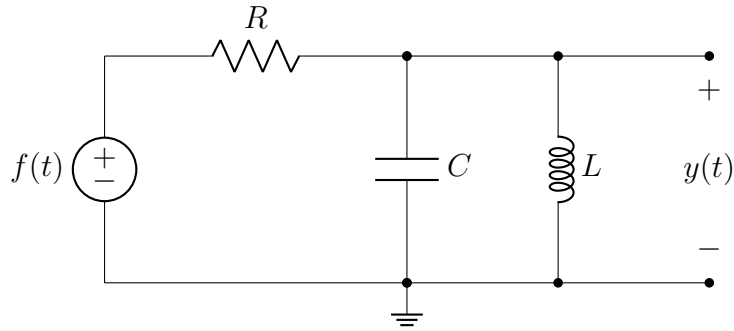

Figure 5.2: Series/parallel resonant circuit
Find the ODE governing the circuit in Figure 5.2. From the ODE, derive the transfer function $H(s)$ from this ODE.
Just to verify your result, write a function in your `periodic_input.py` called `H(s, R, L, C)` that computes the transfer function $H(s)$ for the circuit in Fig. 5.2. The function definition should look like this:
Modify your `periodic_input.py` file to include a function called `y(t, omega_0, m, R, L, C)` that computes the output of the circuit in Fig. 5.2 to the square wave input. The function definition should look like this:
- What ODE governs the circuit in Fig. 5.2?
Connect the $1\text{ k}\Omega$ resistor, the $0.033\text{ }\mu\text{F}$ capacitor, and the 1 mH inductor as shown in Figure 5.2. Connect the input to the function generator and attach a scope probe to the output. Configure the function generator to produce a 20 kHz square wave with a 4 V amplitude. Record two periods of the input and output on the oscilloscope. You may need to adjust the time base and voltage scale to get a good view of the signals. Save the data and add the recorded data to your plot of $f(t)$ and $y(t)$. Ideally, the recorded data for the circuit output should match your computed response $y(t)$.